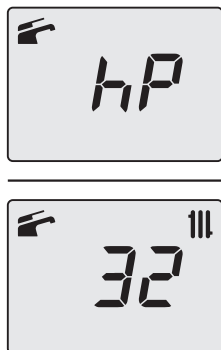

Figure 9.24
- Press button 15 (Figure 9.20) to vary the output in chimney sweep mode: when the LCD displays the letters **hP** that alternate with the temperature of the heating water (e.g. **32**), the "chimney sweep function" is at maximum output in heating mode (Figure 9.24).